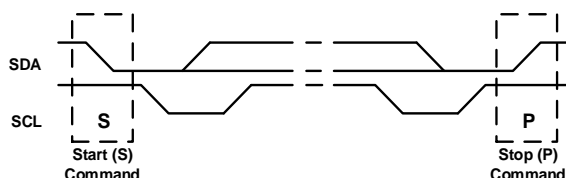

Figure 8: Start and Stop Commands
The start and stop commands are signaled by the master device, which signifies the beginning and the end of the I²C transfer. The start (S) command is defined as the SDA signal transitioning from high to low while the SCL is high. The stop (P) command is defined as the SDA signal transitioning from low to high while the SCL is high (see Figure 8).